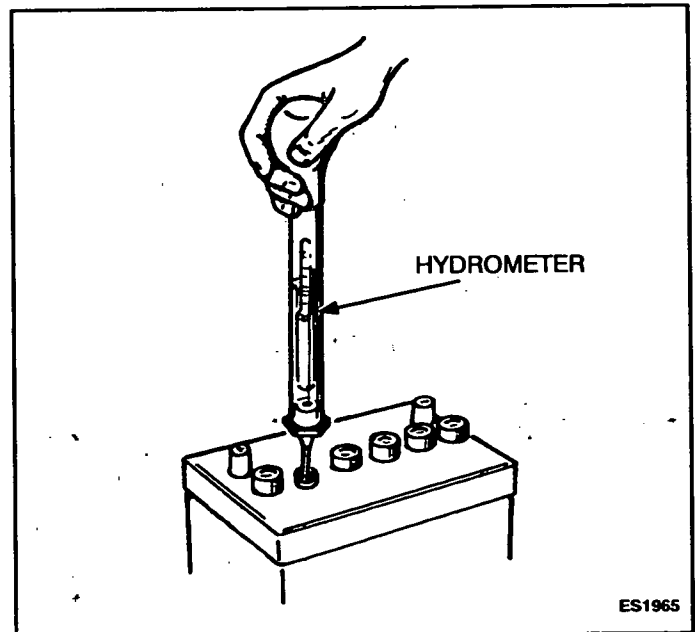

FIGURE 10. BATTERY CHECK
6. Use a battery hydrometer to check the specific gravity of the electrolyte in each battery cell (Figure 10). Charge the battery if the specific gravity measures less than 1.215. Do not overcharge the battery. Stop charging the battery when the electrolyte specific gravity reaches 1.260, at approximately 80° F (27° C).